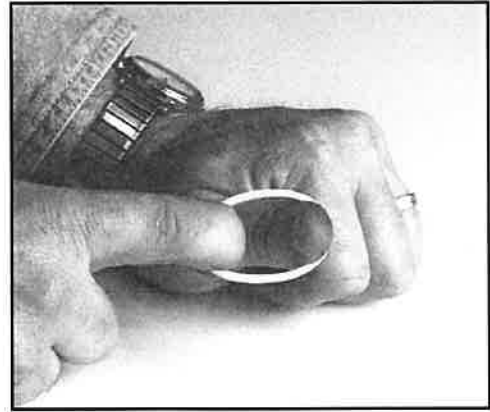

FIG. 46: STRETCH NEW SEAL TO FIT CONTROL STUD
2. Replace seal, stretching the new seal to fit onto the stud (see Fig. 46), then re-form it with a special compression clamp (see Fig. 47).